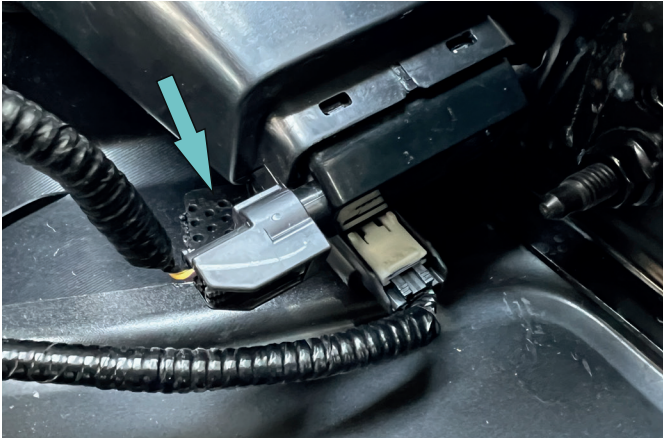

Fig. 7
7. Disconnect license plate lights connectors (Fig. 7).